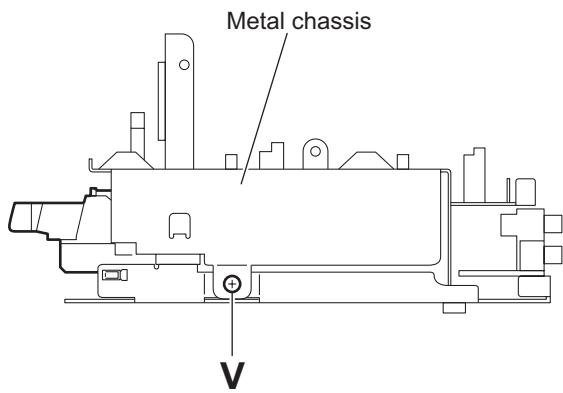

Fig.25
(See Figs.25 to 28)
- (1) From the right side of the main body, remove the screw **V** attaching the metal chassis. (See Fig.25.)